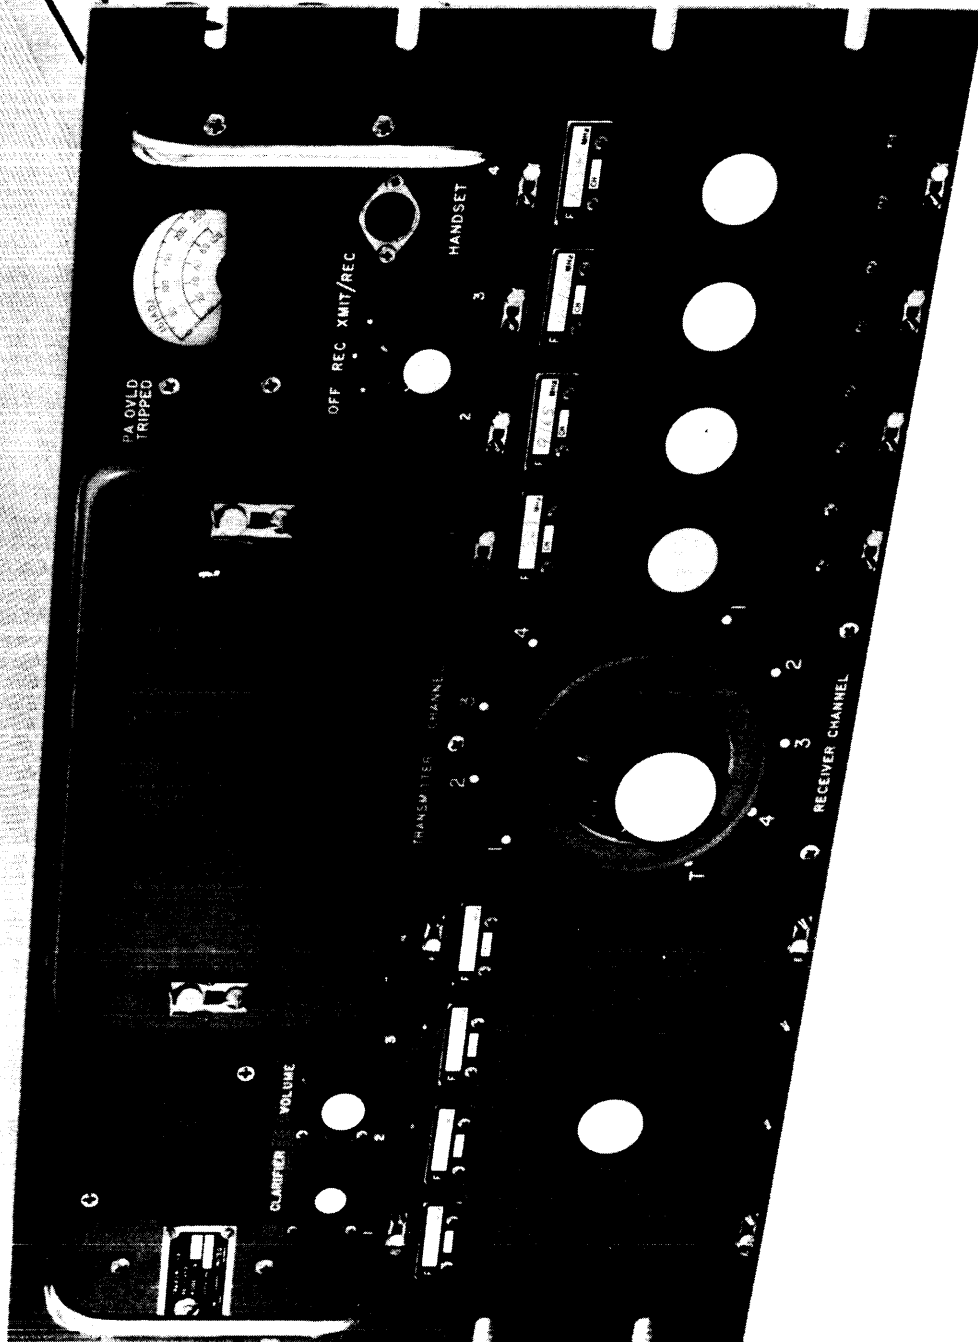

FIGURE 1-1. TRANSISTORIZED SSB TRANSMITTER/RECEIVER MODEL, TTR-20A
a. **GENERAL** — The Transistorized SSB Transmitter/Receiver, Model TTR-20A (figure 1-1), is a four-channel transmitter/receiver covering the 2 to 32 MHz frequency range and having the capability of simplex or duplex operation. The TTR-20A contains both a fully-transistorized superheterodyne receiver, and a fully-transistorized transmitter coupled with a high-power vacuum-tube linear amplifier. Operating potentials for the TTR-20A are provided by a plug-in power supply module (refer to paragraph 1-4). For information regarding the power-supply module, refer to the TPSA-20 manual.